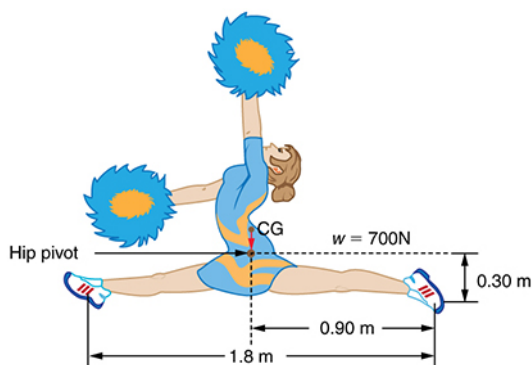

FIGURE 9.34 An athlete performs full split. The center of gravity and the various distances from it are shown.
16. An athlete is attempting to perform splits. From the information given in Figure 9.34, calculate the magnitude and direction of the force exerted on each foot by the floor.